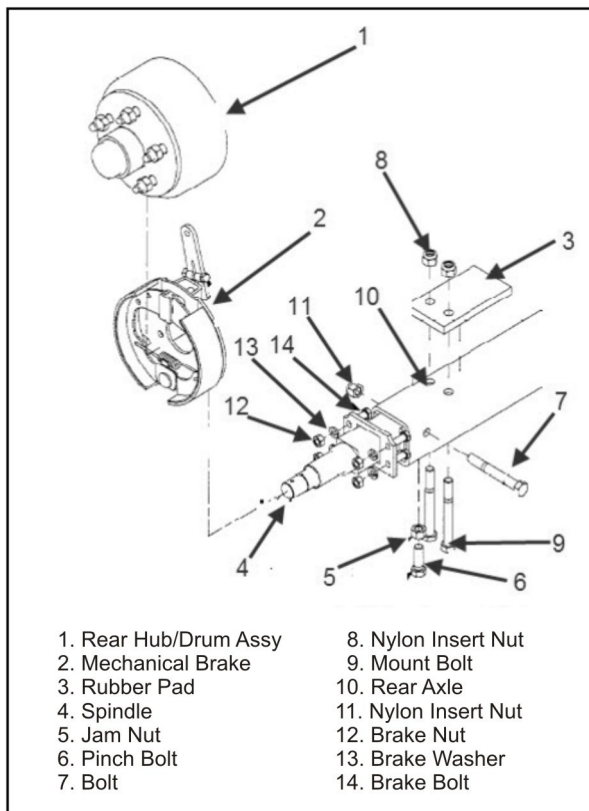

Figure 4-7 Rear Undercarriage Removal
See Figure 4-7 for the following maintenance steps. The rear undercarriage assembly consists of: a wheel assembly, a hub and brake drum assembly (1), a mechanical parking brake assembly (2), a rear spindle (4), and the axle (10).
- c. Remove brake cable end from arm (5) as described in section Section 4.17, step (a).
- d. Remove nuts (12), washers (13), and bolts (14) shown in Figure 4-7
- f. Remove spring (3).
- g. Release brake shoes (2) by removing springs (9) from the backing plate (1).
- h. Remove nut (7), lock washer (8), and bolt (6) to release arm (5).
- i. Remove brake cam (4) by pulling directly outward.